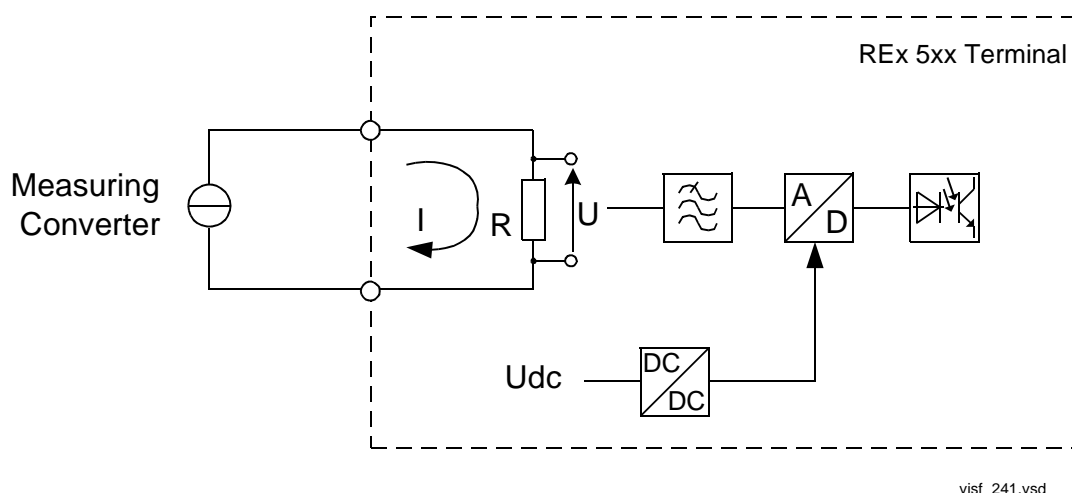

Figure 8: Simplified diagram for the function
On the accurate input shunt resistor (R), the direct input current (from the measuring converter) is converted into a proportional voltage signal (the voltage drop across the shunt resistor is in proportion to the measured current). Later, the voltage signal is processed within one differential type of measuring channel (figure 8).